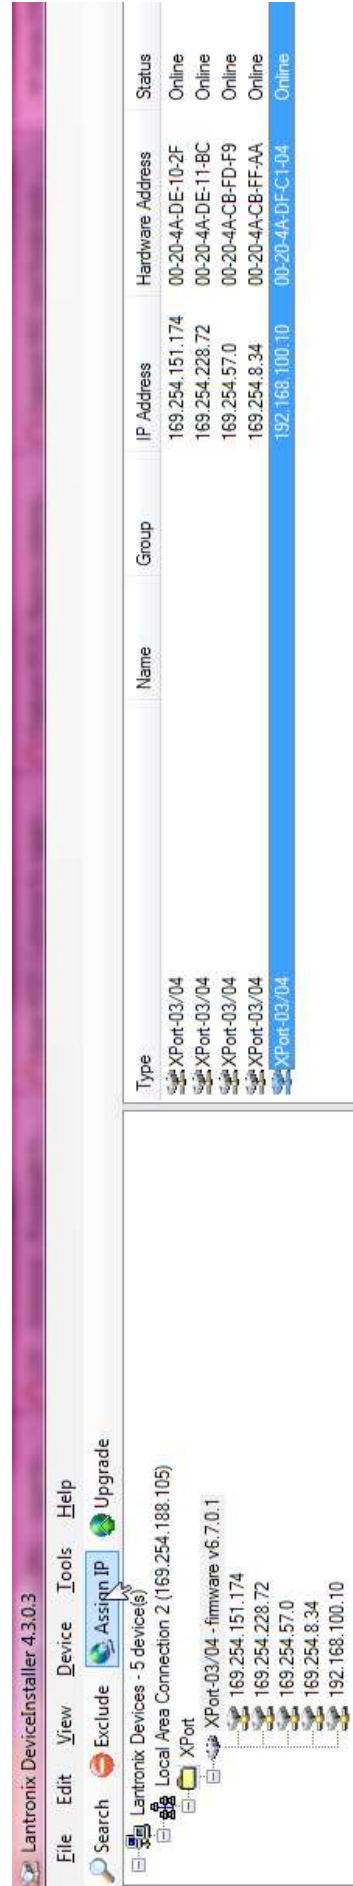

FIGURE 72: The selected device.
1. Select the device whose IP address policy you want to set and press the button Assign IP (see FIGURE 72)